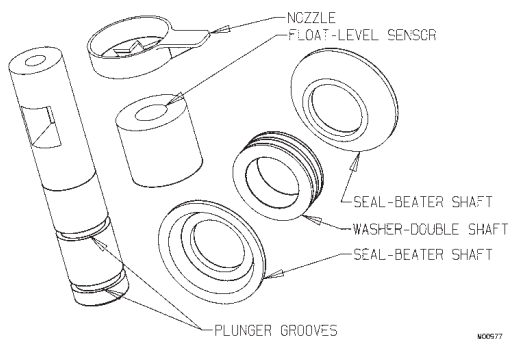

Figure 7-8 Brush shaft seal, bushing, plunger, nozzle and float
c. The shaft seals, washer, plunger O-ring grooves, nozzle and float (figure 7-8).